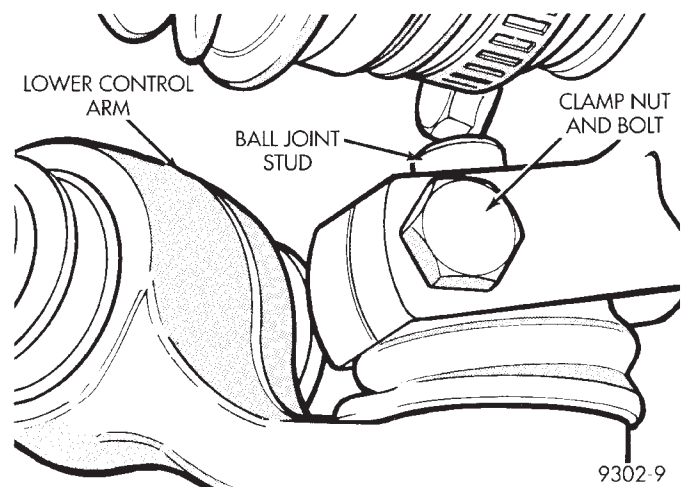

Fig. 10 Control Arm To Steering Knuckle Attachment
(10) Remove the ball joint stud to steering knuckle clamp nut and bolt (Fig. 10).